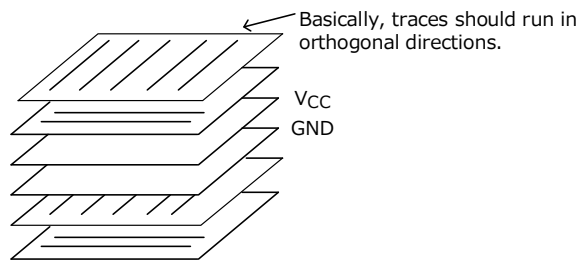

Figure 4.7 Multi-layer board
- In the case of a multi-layer board, run traces on alternate layers orthogonally to each other (Figure 4.7).